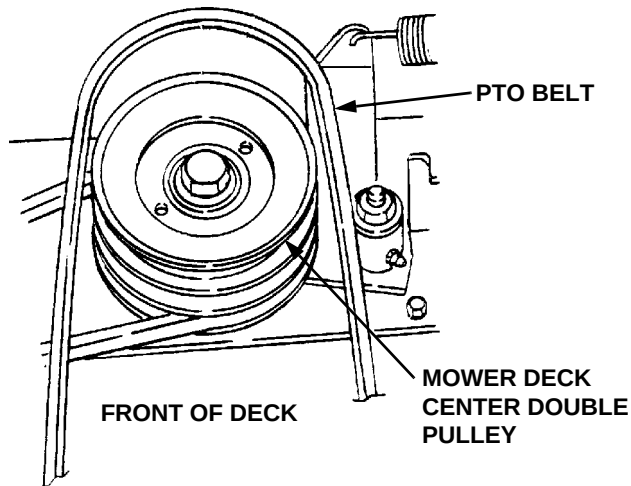

Figure 6-27
14. Working from the left/rear of the mower deck, make sure there is only a 1/4 twist inward in both runs of the belt. Then install the the narrow side of the rearward end of the PTO belt onto the upper pulley of the deck center double-pulley (Refer to Figure 6-27).